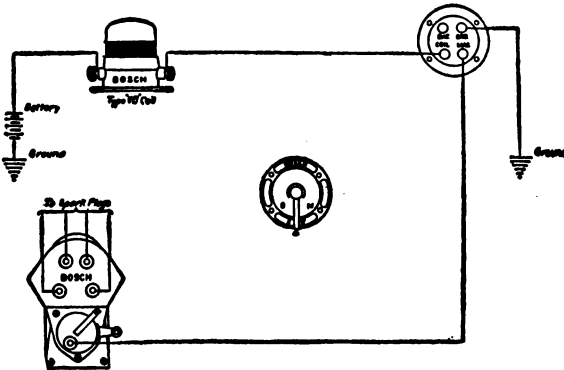
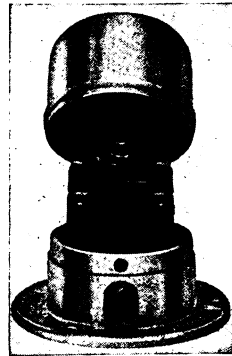

Fig. 456. Bosch Duplex Wiring Diagram
Fig. 457. Duplex Vibrator
**Bosch Vibrating Duplex System.** This system can be used with any Bosch magneto. It consists of a vibrator which is connected in series with a switch and the battery as in Fig. 456. The vibrator is of special construction to allow only enough current to be applied to the magneto primary to produce a good spark, without weakening the magnets, since there is no reversal of battery current through the armature as in a straight duplex system. The vibrator armature and platinum points are shown in Fig. 457. The upper bridge is of hard rubber, while the magnet pole pieces come very close together so as to make a very efficient magnet. A condenser, shown above the coil, is connected across the points. A switch turns off and on the battery or magneto ignition.